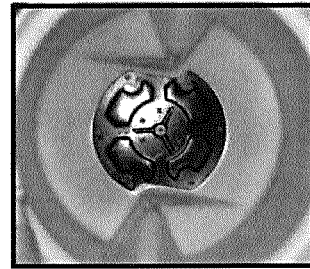

Fig.10: Verify that the holes of the mixing drum, the plate assembly and rubber pad are properly aligned.
3. Slide assembly inside drum and through opening at the bottom. Verify that ALL HOLES LINE UP THROUGH THE DRUM AND ASSEMBLY (Fig. 10)